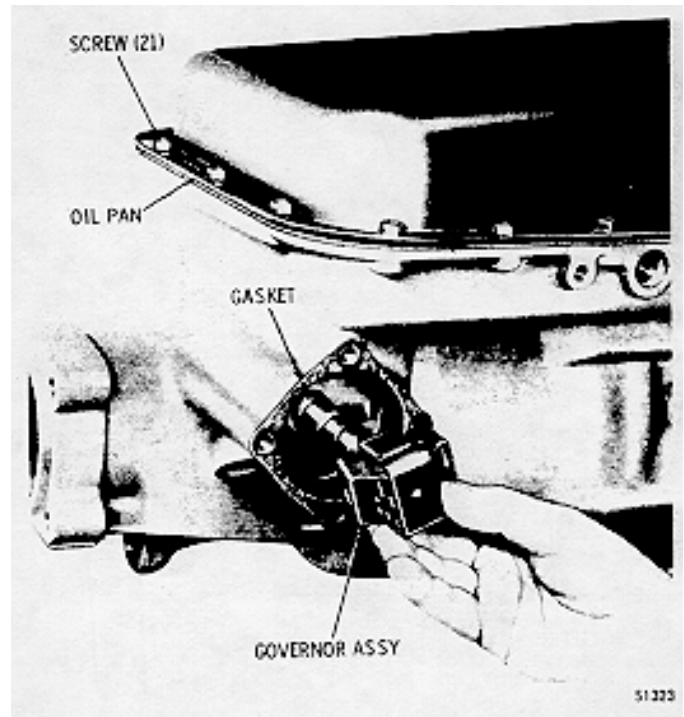

Fig. 5-5. Removing governor assembly
(2) Remove the governor assembly (fig. 5-5), rotating it clockwise to disengage the drive gears. Refer to paragraph 6-5 for inspection of the governor.
(3) Remove the governor cover gasket.
(1) Remove the twenty-one screws that retain the oil pan (fig. 5-5).
(3) Remove thrust washer 29 (A, foldout 6) from the rear of the clutch assembly.
(4) Refer to paragraph 6-8 for rebuild Fig. 5-5 build of the forward clutch and turbine shaft assembly.